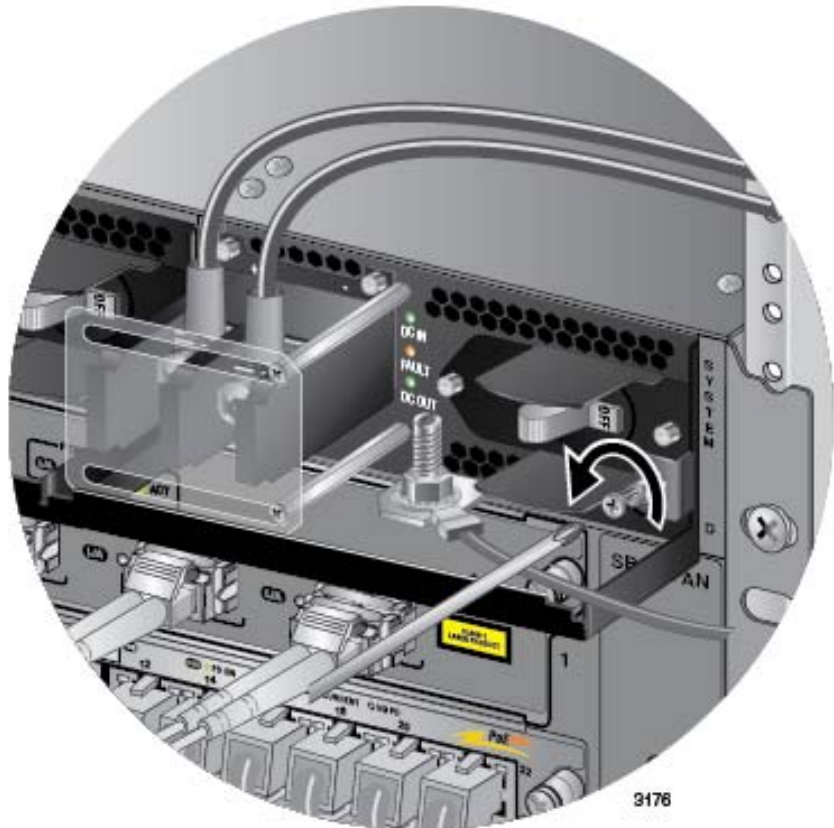

Figure 159. Loosening the Screw on the Locking Handle
3. Use a #2 screwdriver to loosen the screw on the locking handle. Refer to Figure 159 on page 261.